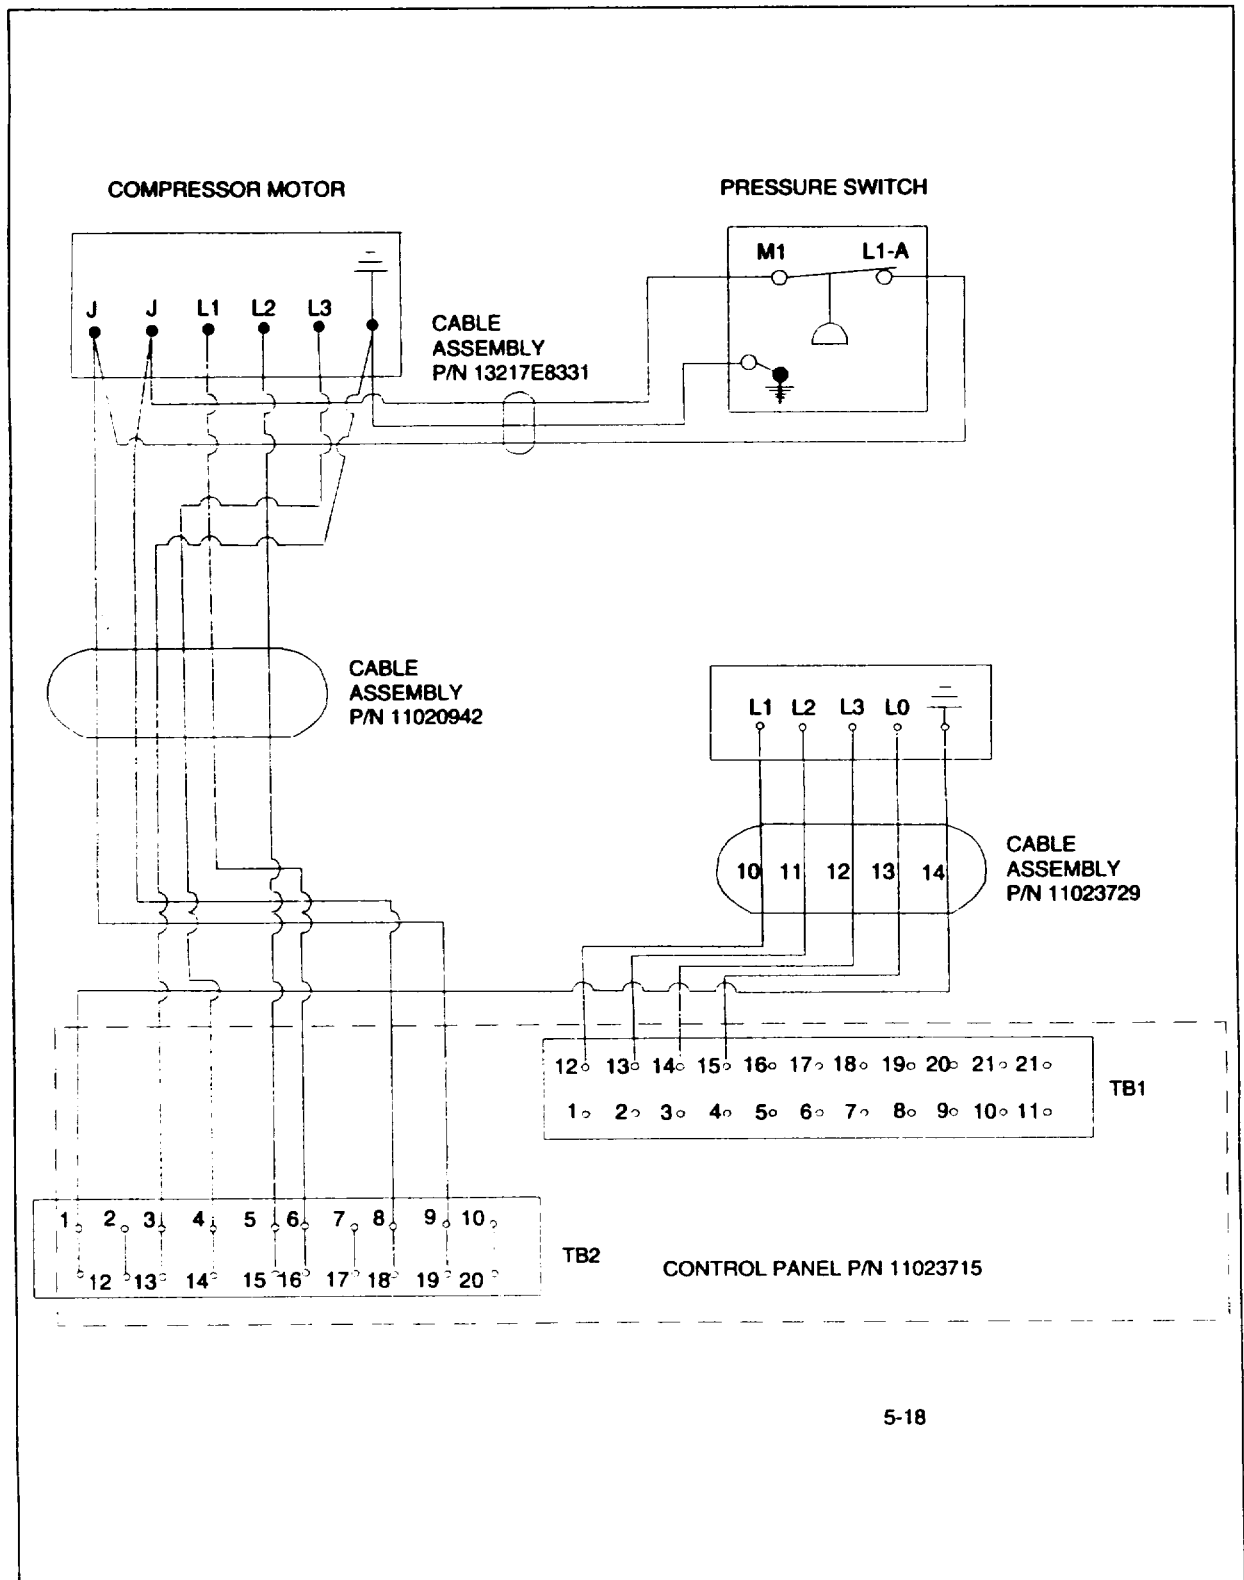

Figure 5-19. Cable Assembly (alternating Current) Electrical Schematic.
- **Tag all required wiring before disconnecting. Refer to electrical schematic (fig. 5-19).**